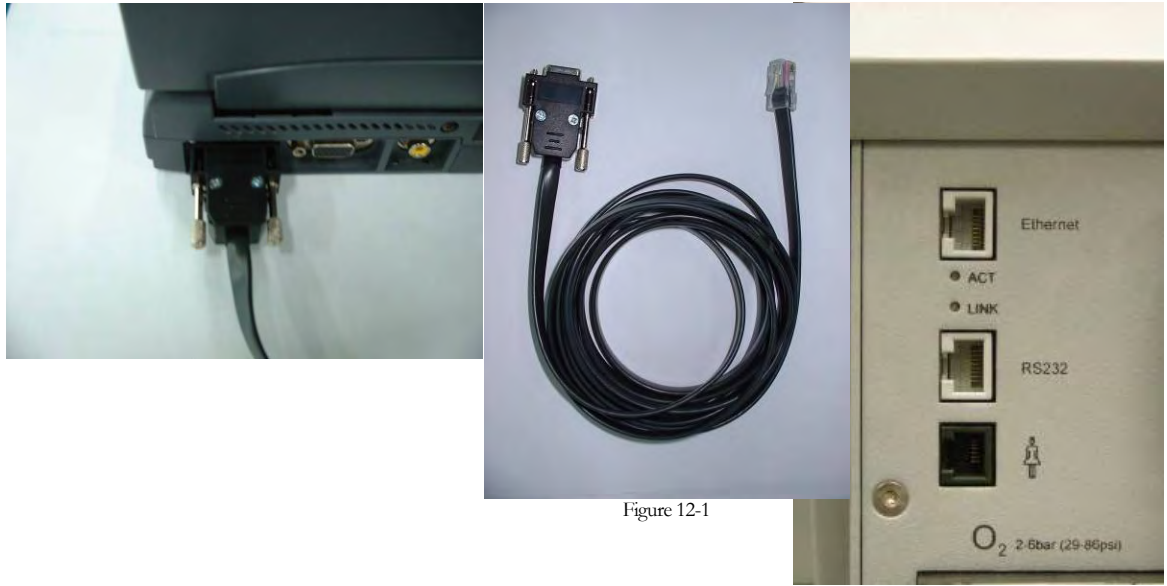

Figure 12-1
- Attach the software download cable (F910085) to an available RS232 port on your PC as shown in Figure 12-1.
- Attach the software download cable to the available serial port on your PC as shown in Figure 12-1.